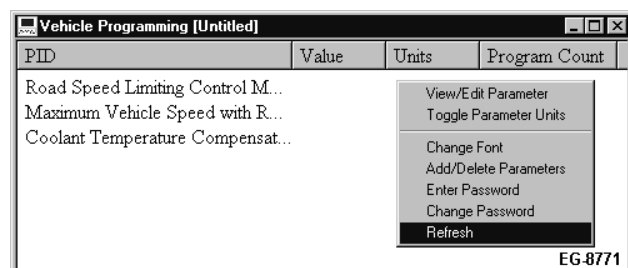

Figure 238
4. Click the advanced features **Refresh** option (See Figure 238, page 408).